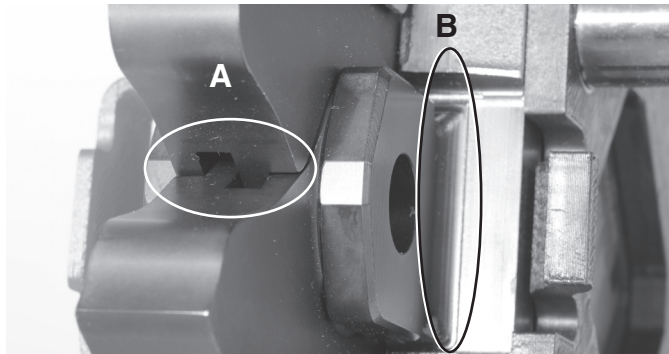

Figure 2B – Areas to inspect for damage to Arms (A) or Mounting Tab (B)
- Damage to mounting tabs or to arm hinge area (See Figure 2B).